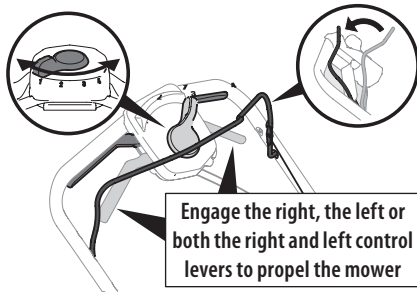

Figure 35
1. Once the engine is running, and while continuing to hold the blade control down, squeeze either (or both) drive controls against the upper handle to propel mower (Figure 35).